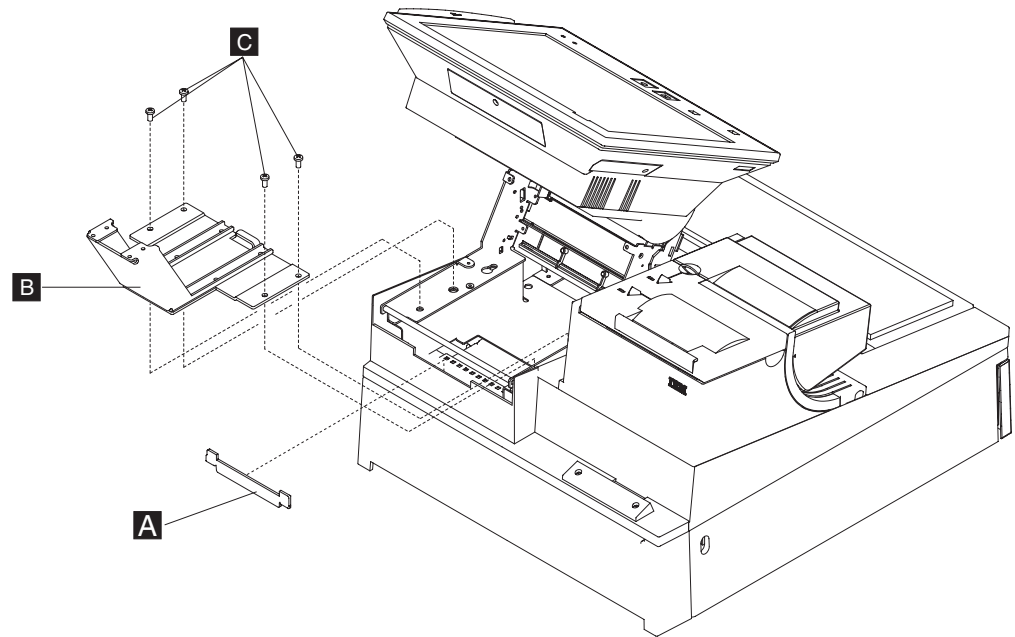

Figure 41. Removing the 4820 SurePoint Solution from a keyboard integration tray
- d. Remove the 4820 display by removing the four screws **C** from the display mounting bracket **B**, as shown in Figure 41. Carefully place the 4820 display on a smooth, clean surface.
Note: Spacer **A**, in Figure 41 is not used when the 4820 is attached. If you are permanently removing the 4820, you must replace this spacer.